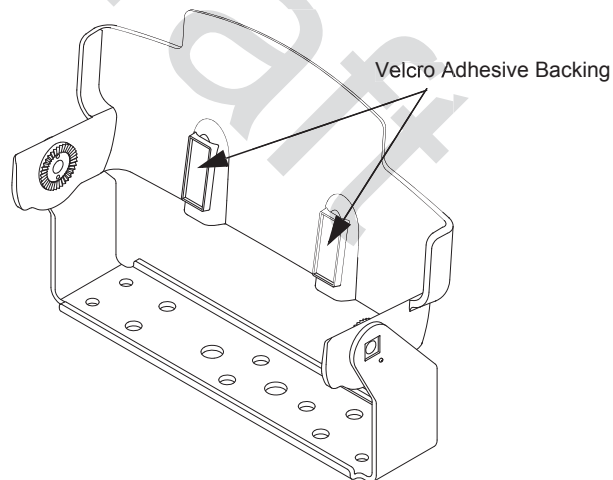

Figure 5-23. Position the Sunshield
2. Position the sunshield as shown in Figure 5-23 and remove the Velcro adhesive backing.